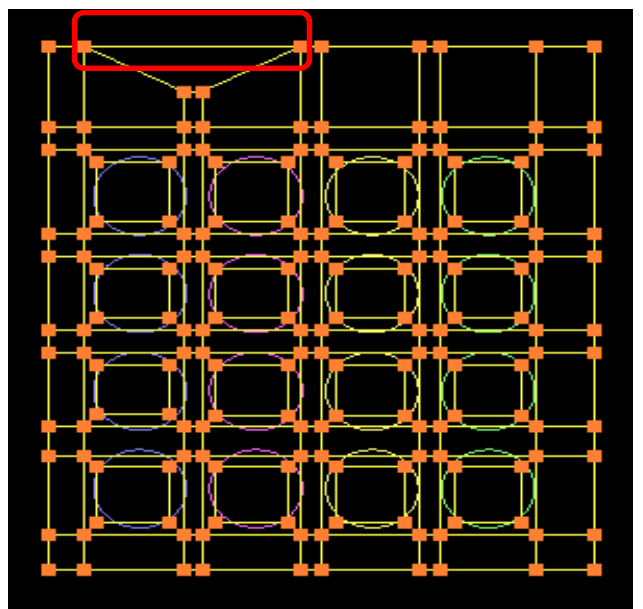

Figure 30.6
- Switch off the group and link the corners together as shown in figure 30.6.